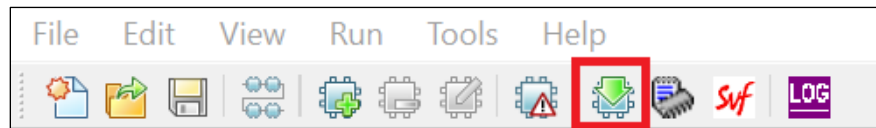

Figure 3.5. Program the device
- Press **OK**, then click **Program Device** in the Programmer to complete programming. See Figure 3.5.